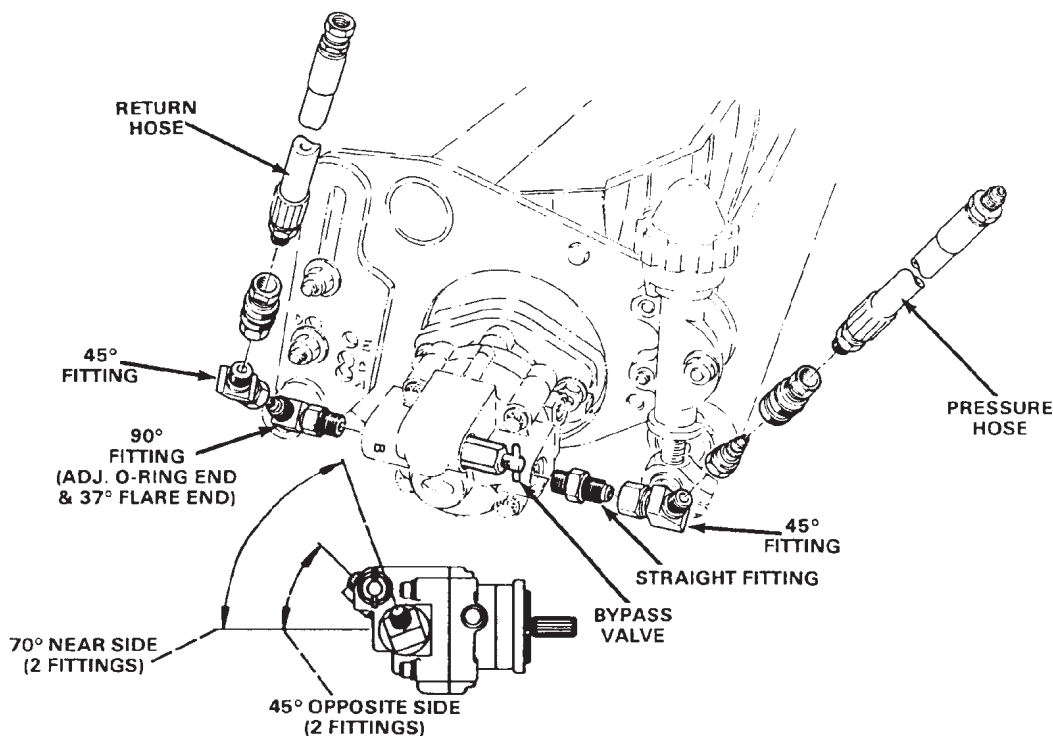

Figure 2
4. Identify the correct fitting locations and position for the left cutting unit by referring to Figure 2.